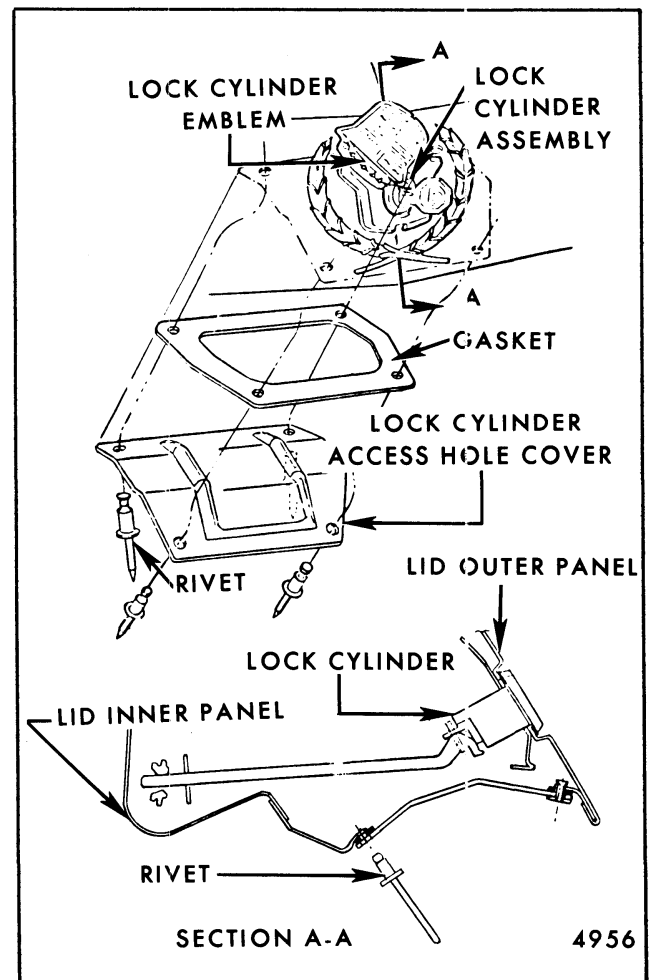

Fig. 7-1-Lock Cylinder Access Hole Cover - Cadillac "E" Style
**NOTE:** On Cadillac "E" Styles, access to emblem attaching nuts requires removal of inner panel lock cylinder access hole cover (Fig. 7-1). To remove, drill out rivets with 5/32" diameter drill bit.